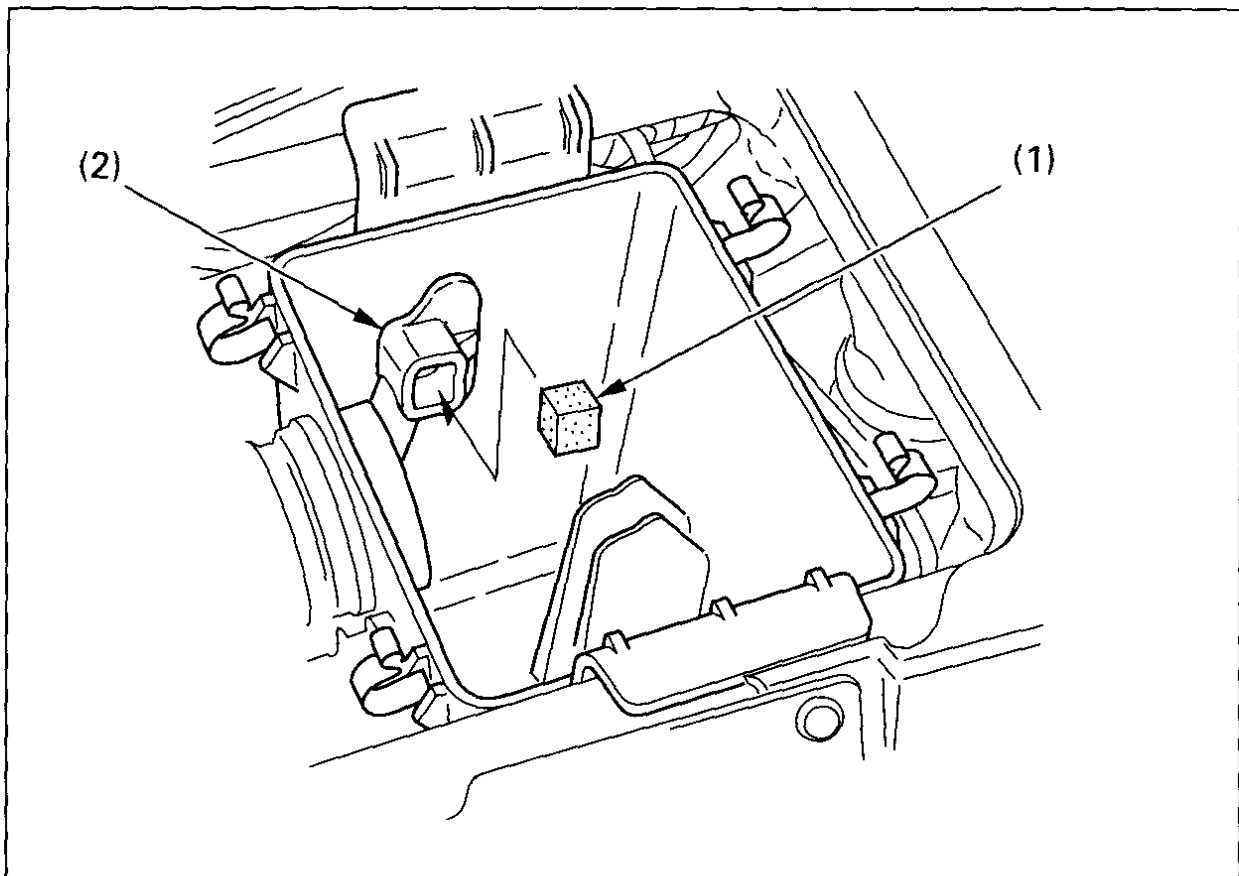

Fig. 4-6 (1) Dust cover
If the dust cover (1) (Fig. 4-6) is dirty, clean it.